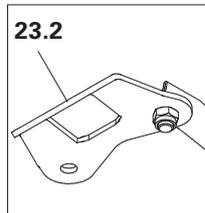

Fig. A7.12
3. Push end plate (23.2) onto the outer Truss Girder via the Diagonal Brace connection. (Fig. A7.12 + A7.14)